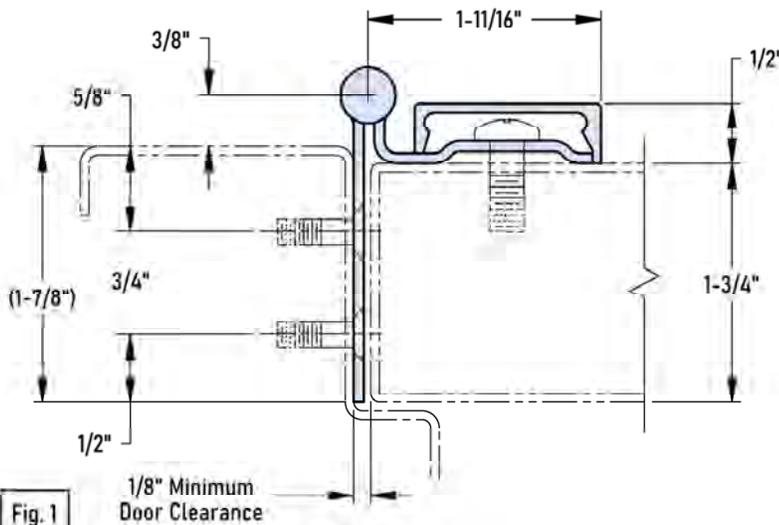

Fig. 1
- A. Place hinge on frame. Position top of hinge  $1/8"$  maximum below. Allow  $1/16"$  between stop and edge of hinge (Fig. 1).
- Place the hinge on the door as shown (Fig. 1). Carefully line up the hinge with the top and back edges of the door.